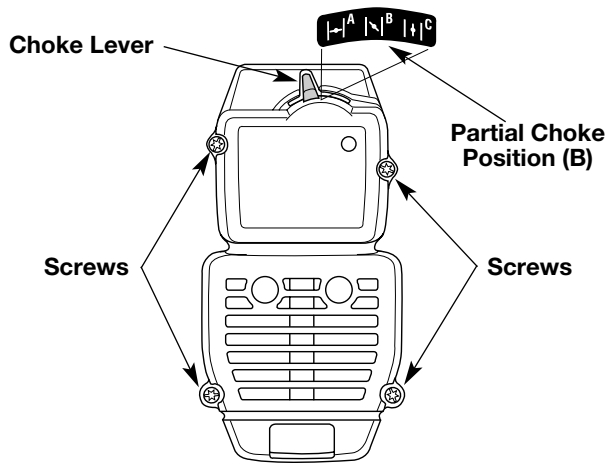

Fig. 33
NOTE: The choke lever must be in the **PARTIAL** choke position (**B**) (Fig. 33) to remove the air filter/muffler cover.
2. Remove the four (4) screws securing the air filter/muffler cover (Fig. 33). Use a flat blade or T20 Torx bit screwdriver.
NOTE: The choke lever must be in the **PARTIAL** choke position (**B**) (Fig. 33) to install the air filter/muffler cover.
2. Insert the four (4) screws into the holes in the air filter/muffler cover (Fig. 33) and tighten.